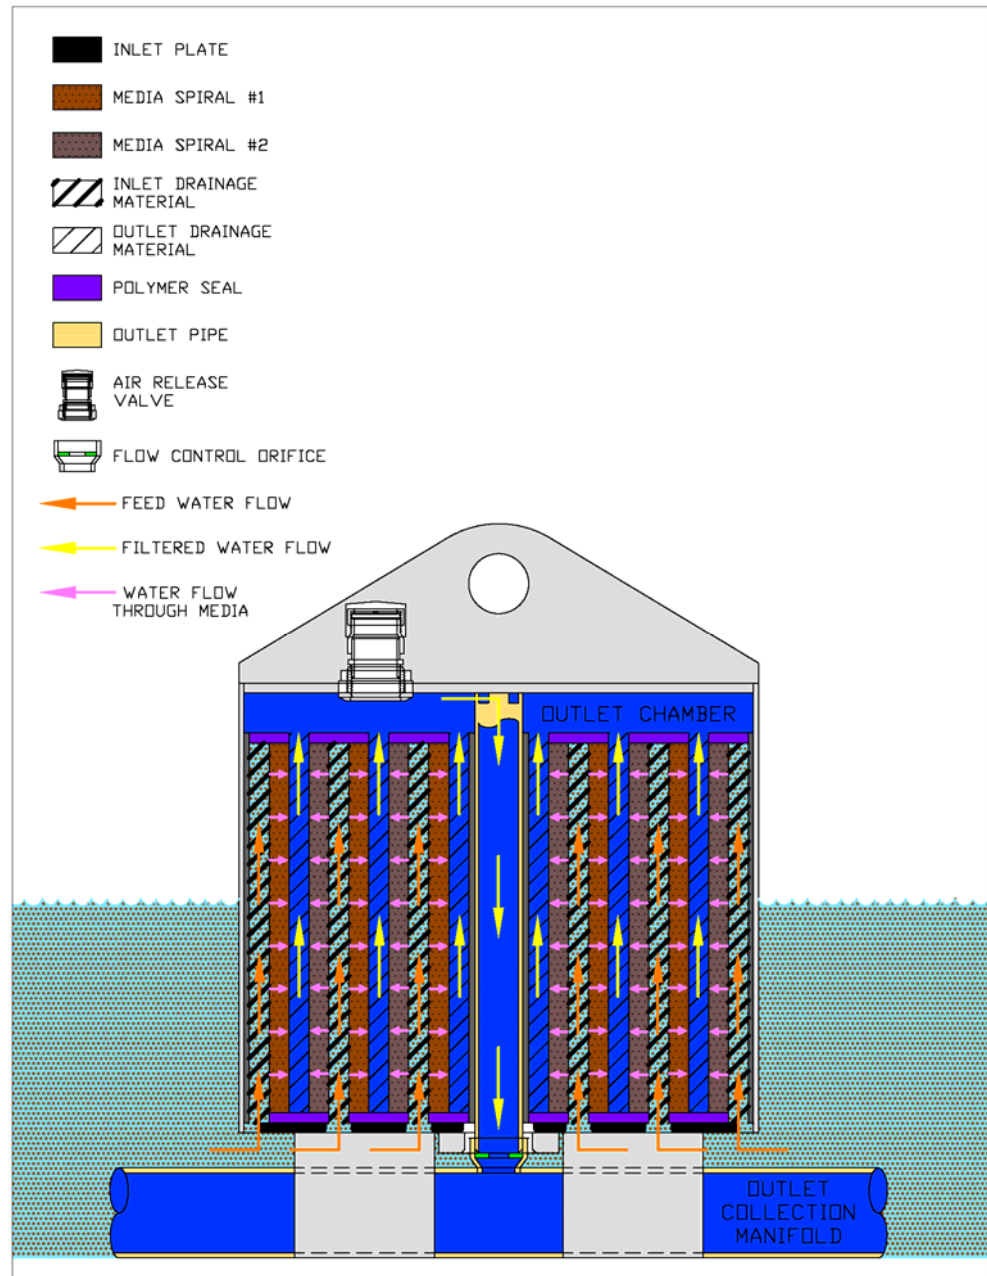

Figure A-3: Siphon filtration
- C. Siphon Filtration: After the water level in the vault falls below the top of the filter, a siphon is established and water will continue to flow (Figure A-3) until the siphon is broken. During siphon flow the level in the vault will decrease until it reaches the base of the BFC; air enters the filter, breaks the siphon, filtration flow stops, and the hydrodynamic backwash begins.